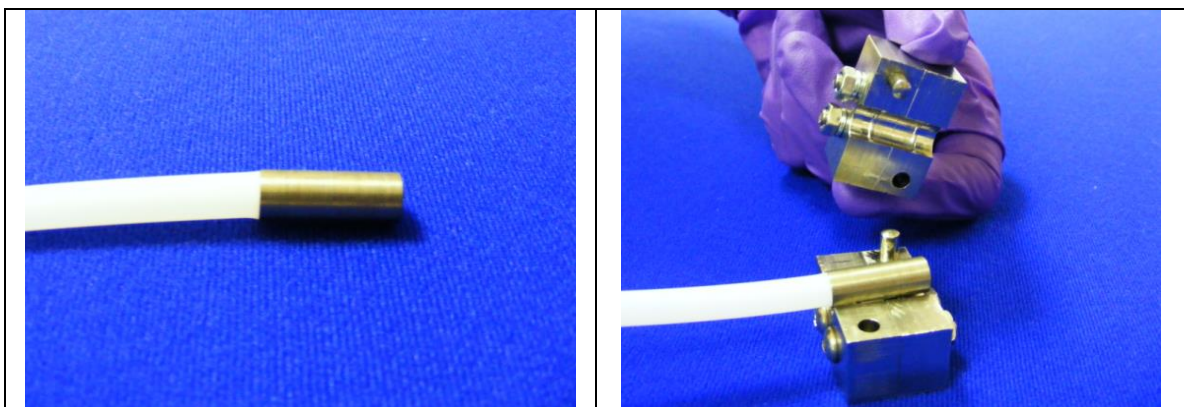

Figure 6: Putting on the crimp
- 7 Put a crimp on the end of the tubing with the rod inside. The crimps are the same length as the rod, 2cm. Place the assembly into the crimp tooling as shown (Figure 6).
12 Follow steps 7, 8 and 9 (Figures 6, 7 and 8) to fit the second crimp onto the tube.